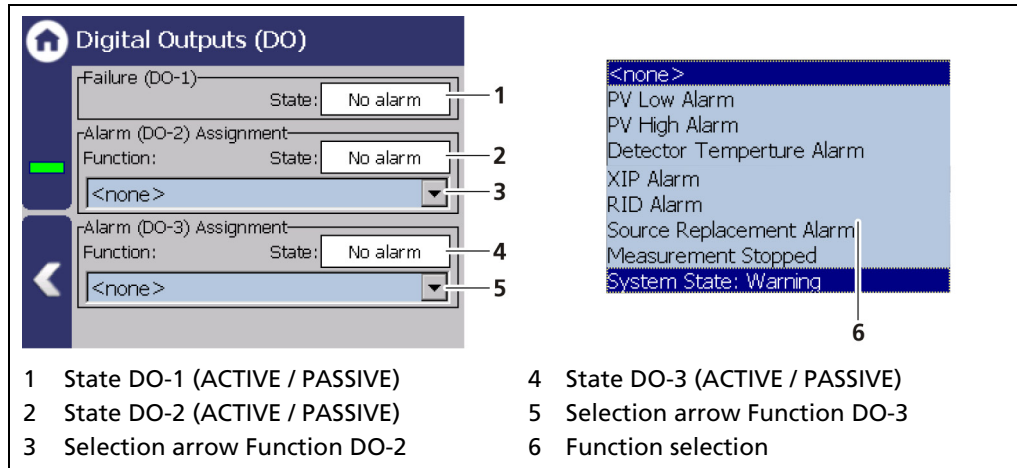

Fig. 120 Digital Outputs
When exceeding or falling below the switching point, an event message appears in the status display. If a digital output "min. level Alarm" or "max. Level Alarm" is assigned under the function (Fig. 120, item 6), the relay alarms.